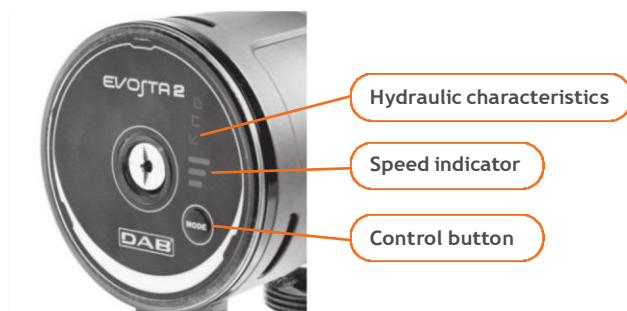

Figure 7(b) - DAB EVOSTA2Z pump control panel.
5.2.18 The boiler is equipped with a frequency circulation pump DAB EVOSTA2 65/130 OEM (1/2") The setting of the circulation pump EVOSTA 2 is done with only one button located on the back of the stator housing. The pump has 3 modes of operation and 9 hydraulic characteristics, switching between them is done using MODE buttons. The selected operating mode is displayed using 3 light indicators (Figure 7(b)).